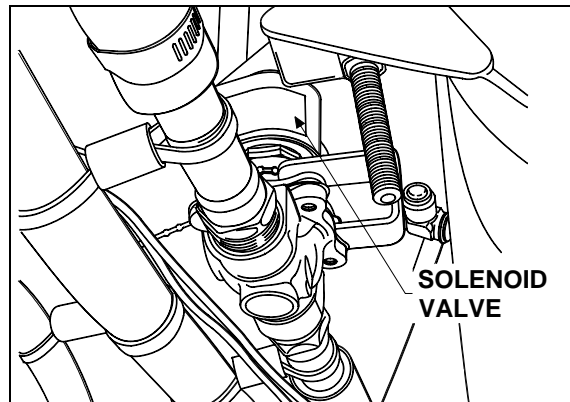

FIGURE 44: CEILING OF SPARE WHEEL COMPARTMENT
2. Locate the normally open water solenoid valve on the ceiling of the spare wheel compartment (Figure 44), disconnect its wiring connector, then connect a 24-volt external power source, using jumper cables, to close valve.
A two-way normally open, internal pilot-operated solenoid valve designed for smooth closing is used to control the coolant flow through the driver's heating unit. It is mounted on the coolant inlet line of the driver's heating unit, and is accessible through the spare wheel compartment (Figure 44). The valve cannot be manually bypassed.